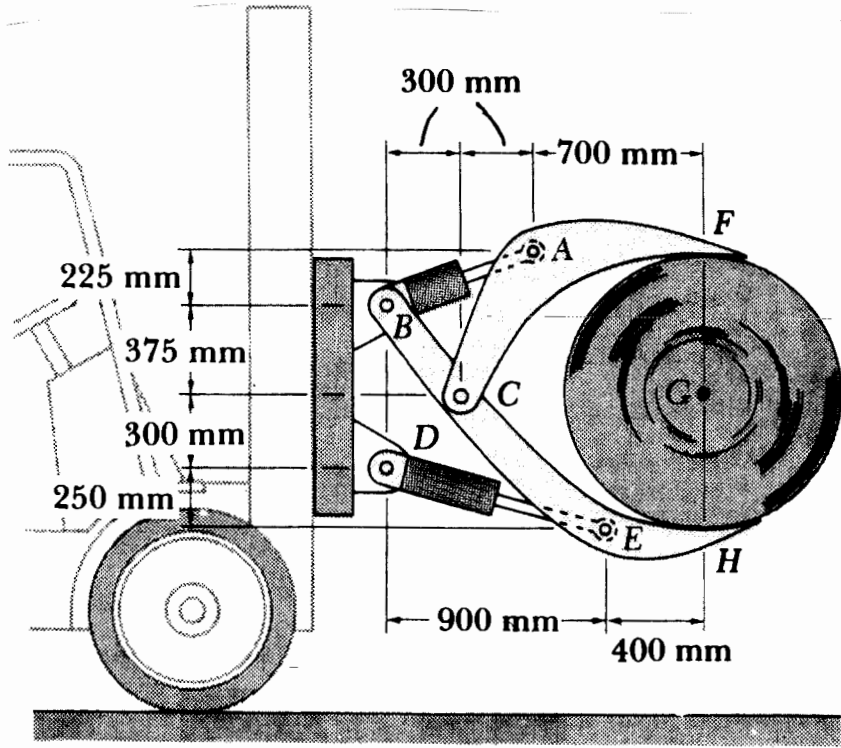

Fig P2
- 2) The action of a roll clamp is controlled by two hydraulic cylinders as shown in Fig. P2. In order to hold firmly the 2000-kg paper roll, a vertical 6-kN force is applied at the top of the roll by arm CAF . Determine